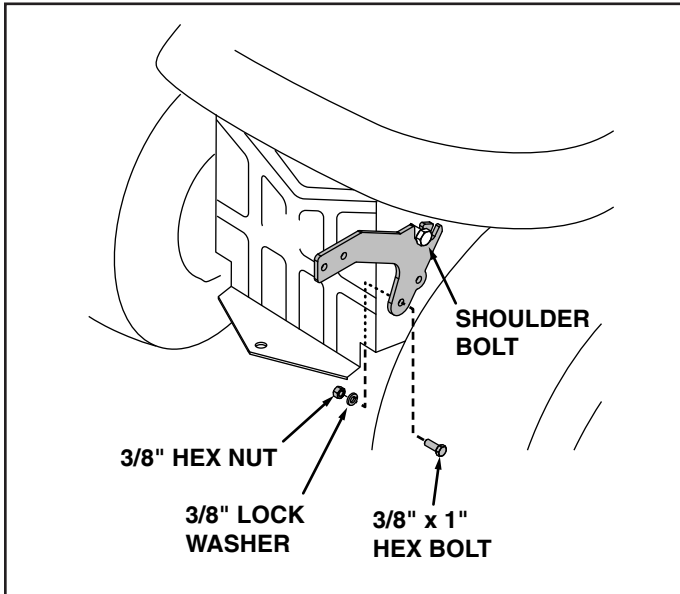

FIGURE 4
1. Place the second notch in top of weight bracket arm (2) onto shoulder bolt in side of drawbar. Secure bottom of arm to drawbar using a 3/8-16 x 1" hex bolt (3), a 3/8" lock washer (9) and a 3/8-16 hex nut (11). Repeat on other side. See figure 4.
2. Assemble the weight bracket (1) to weight bracket arms (2) using four 3/8-16 x 1" hex bolts (3), 3/8" lock washers (9) and 3/8-16 hex nuts (11). See figure 4.
3. Assemble wheel weight to weight bracket (1) using two 1/2" x 5-1/2" hex bolts (14), 1" O.D. washers (5), 1/2" lock washers (8) and 1/2-13 hex nuts (10). Tighten securely. See figure 4.